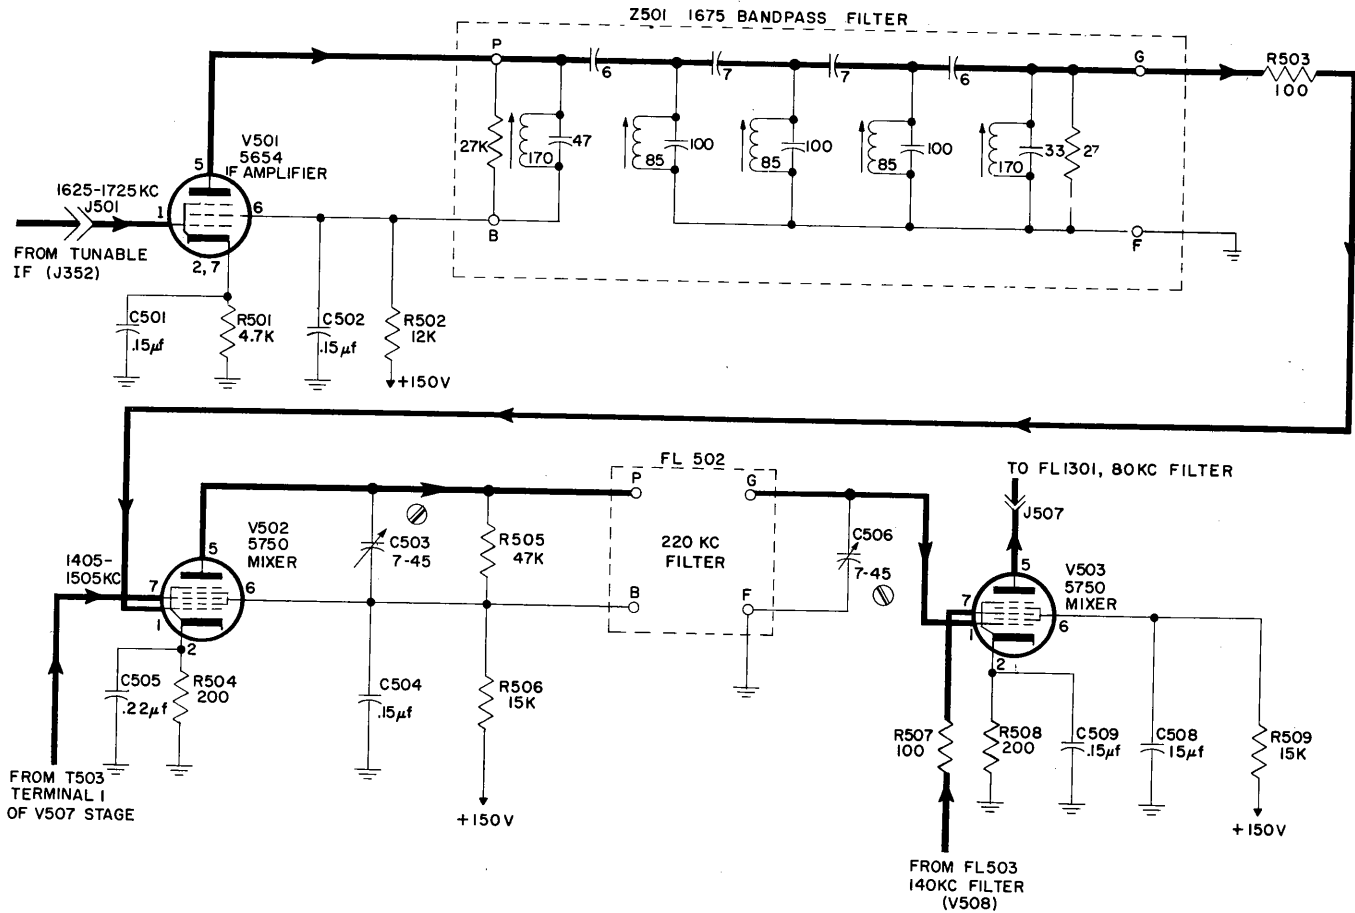
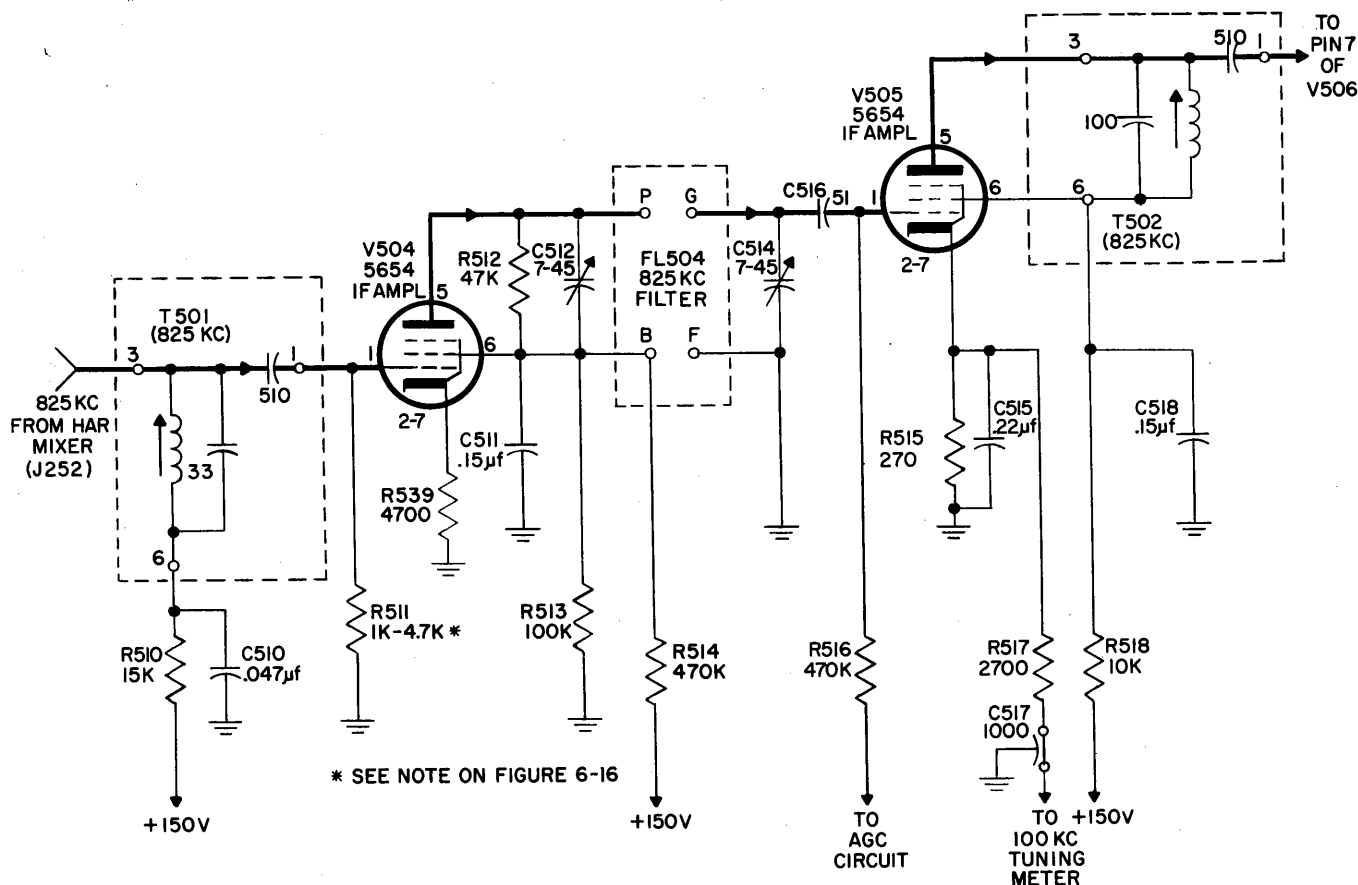
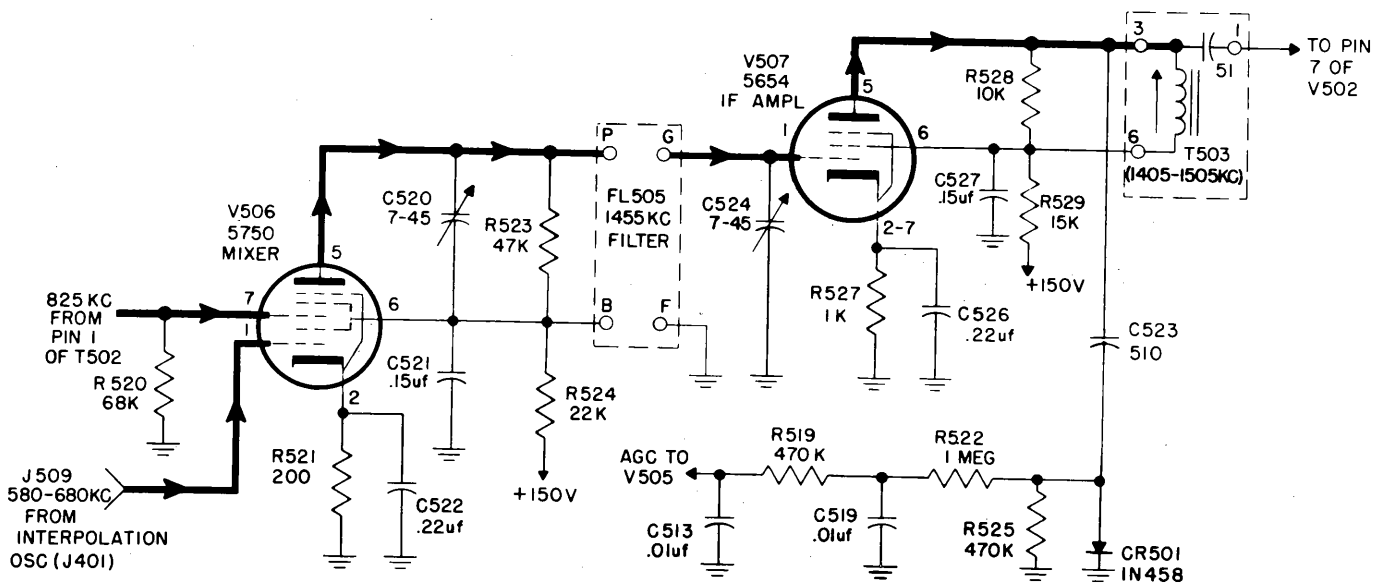

Figure 4-12. IF Amplifier V501 and Mixers V502 and V503, Simplified Schematic Diagram
Figure 4-13. IF Amplifiers V504 and V505, Simplified Schematic Diagram
Figure 4-14. Mixer V506 and IF Amplifier V507, Simplified Schematic Diagram
**c. IF AMPLIFIER V501, MIXERS V502 AND V503.**—As shown in figure 4-12, the output of the tunable IF filter is supplied to IF amplifier V501 through J352 and J501. The plate load of V501 is bandpass filter Z501. Filter Z501 has a 100 kc bandpass with a center operating frequency of 1,675 kc. The output of the filter is applied to grid 1 (pin 1) of mixer tube V502. The second signal required for mixing action is applied to the other input, grid 3 (pin 7) of V502. This signal is obtained from T503 which is the output load of IF
**d. IF AMPLIFIERS V504 AND V505.**—As shown in figure 4-10, the development of the 1,405 to 1,505 kc signal used by mixer V502 is dependent on inputs from the interpolation oscillator (580 kc to 680 kc) and the harmonic mixer (825 kc). The 825 kc input from the harmonic mixer enters the injection IF amplifier at terminal 3 of T501 (figure 4-13). Intermediate frequency unit T501 is tuned to 825 kc and develops the input signal which is applied across R511 (grid resistor of V504). The output of IF amplifier V504 is impressed across bandpass filter FL504, the center operating frequency of which is 825 kc. This filter passes all signals in the range of 810 kc to 840 kc. The output of FL504 is applied to IF amplifier V505 through
coupling capacitor C516. The plate load of V505 is another intermediate frequency unit (T502, with characteristics similar to those of T501). The output from T502 is applied to pin 7 of V506 (figure 4-14). An AGC voltage, developed at the output circuit of V507, is applied to the control grid of V505 (figure 4-13). When the signal amplitude tends to increase, a greater negative AGC voltage is applied to V505. This reduces the gain of the amplifier, thus reducing the amplitude of its output. Conversely, a decrease in amplitude results in a less negative AGC voltage applied to V505 and a corresponding increase in signal amplitude at mixer V506 (figure 4-14). Provisions for monitoring the plate current are provided in the cathode circuit of V505 (figure 4-13). This feature is used when the receiver is tuned (TUNING  $\Delta F = 100$  KC control).
e. MIXER V506, IF AMPLIFIER V507.—As shown in figure 4-14, mixer V506 receives inputs from T502 (825 kc) and from the interpolation oscillator (580 kc to 680 kc) through J509. These inputs are mixed in V506 and supplied to bandpass filter FL505. The output of V506 contains signal components of the following frequencies: (1) 580 to 680 kc, (2) 825 kc, (3) the difference between 825 kc and the 580-to-680 kc range, and (4) the sum of the 825 kc and the 580-to-680 kc range. Since filter FL505 is tuned to the 1,405-to-1,505 kc range, only the sum frequency component of the V506 output will be passed to pin 1 of V507. The amplified output of V507 is developed at T503 and applied to mixer V502 (figure 4-12). A portion of the V507 output is coupled to AGC diode CR501 through capacitor C523. The shunt-connected diode clamps the positive half-cycle of the output signal to ground but allows the negative half-cycle to continue on through to an RC filter network comprised of R525, R522, C519, R519,
and C513. The negative AGC voltage built up in the RC filter network is supplied to the control grid of V505 (figure 4-13). The extent of this negative voltage depends on the amplitude of the incoming signal to IM amplifier V507 (figure 4-14).
The 80 kc filter (FL1301) accepts the 80 kc intermediate frequency developed by mixer V503 (third conversion mixer figure 4-12) and passes it to two detector-amplifier sections of the demodulator. The filter has a center operating frequency of 80 kc with a 12 kc bandwidth. The 80 kc input is applied to the filter through connector J1301. The output of FL1301 is applied to the USB detector-amplifier through connectors J1302